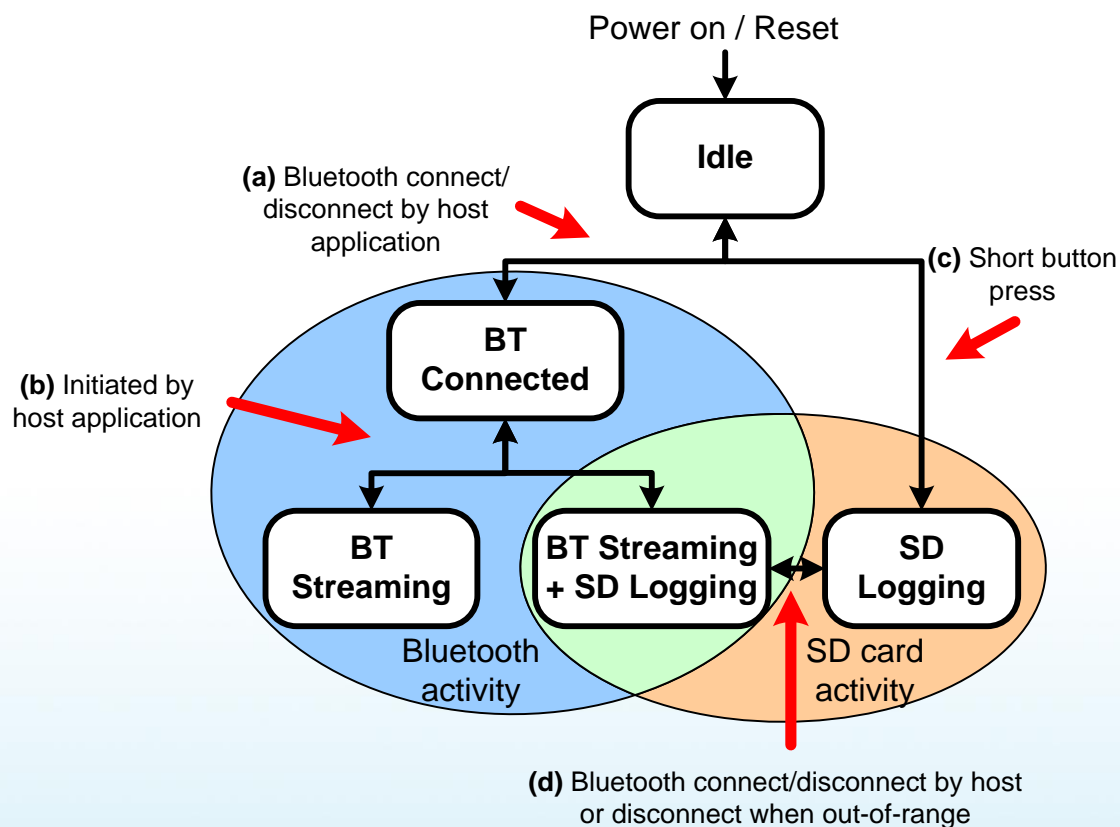

Figure 6-1 *LogAndStream* firmware operational hierarchy.
A *Shimmer3* programmed with *LogAndStream* firmware can be in one of five states: *Idle*, *BT Connected*, *BT Streaming*, *BT Streaming + SD Logging* or *SD Logging* - as shown in Figure 6-1. The active states form two operational branches from which the user can choose to operate the *Shimmer3* device - one initiated by a Bluetooth connection (blue shaded area in Figure 6-1) and the other based on SD Logging operation (orange shaded area in Figure 6-1).
The key feature of the *LogAndStream* firmware can be viewed at the intersection of the two active branches (green shaded area in Figure 6-1). From a "host" application, the user can select to stream *Shimmer3* sensor data over a Bluetooth connection at the same time as saving it locally to the on-board microSD card. An instance where this is of key benefit is the case where, in the process of data collection, a *Shimmer3* might travel out of range from the "host" device. In this circumstance, the *Shimmer3* will continue to save data to the microSD card such that there will be no break in the data recording. Similarly, during normal SD logging operation, continuous Bluetooth streaming is not
The 'paths' referred to below are indicated in Figure 6-1.
- ii. In the event of either a Bluetooth disconnection, the serial port being closed or the *Shimmer3* travelling out of range for a certain period (≈ 150 s), the *Shimmer3* will automatically enter the *SD Logging* state (as illustrated by "Path (d)" in Figure 6-1).